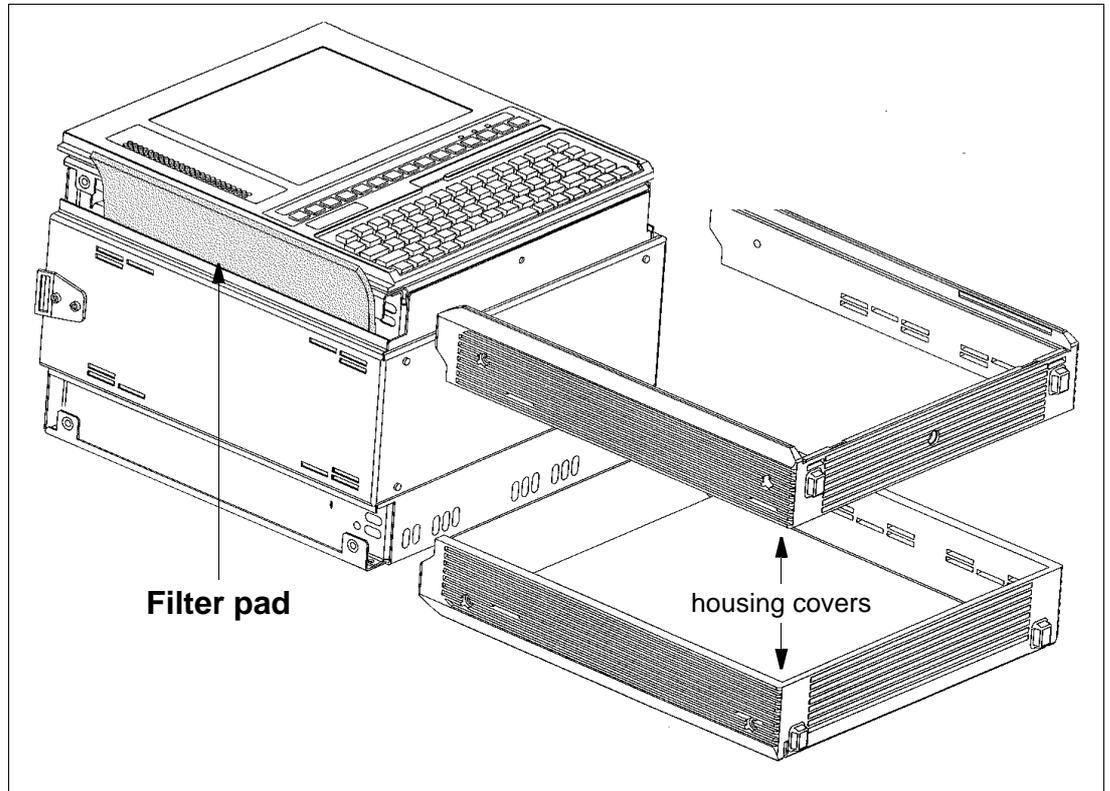

Fig. M-6 Replacing the ANT-20E filter pad
3. Remove the housing covers of the ANT-20E (see Fig. M-6).